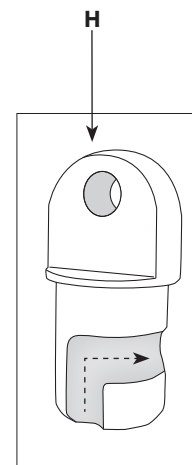

FIG. 3: End Plug close-up
- 6** Center the Awning Curtain (C) in the Mounting Bar (F), and squeeze together neatly with a pair of pliers both ends of the Mounting Bar (F), locking the panel assembly in place.
- 7** Attach the Support Arms (A) to the end of the Roll Tube Castings (E) and twist until locked.
- 8** Insert the End Plugs (H) into the end of the Support Arm (A) and twist until locked. Install the end of the Support Arm (A) into the Wall Bracket (W) and attach with a screws. See Fig. 3
**9** On or below the window sill, measure in at least 3" on each side. Install (1) Screw Hook (**S1, S2**) to each side with (1) Pulley (**P1A, P1B**) on each and squeeze closed. In the center of the window, install (1) Screw Hook (**S3**) with (2) Pulleys (**P2A, P2B**) and squeeze closed. Below these Pulleys, install the Cord Cleat (**K**).